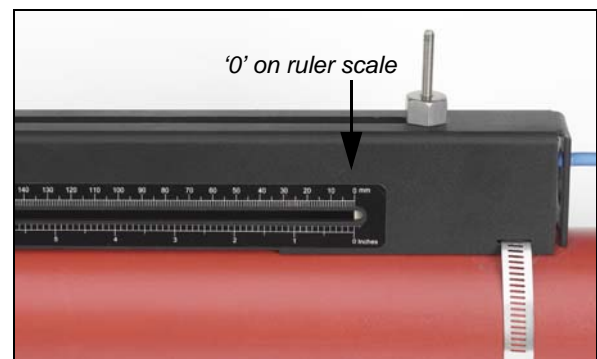

Figure 2.10
6. Carefully slide the downstream transducer assembly along the guide rail until the inner face of the transducer is aligned with the '0' mark on the ruler scale (Figure 2.10).